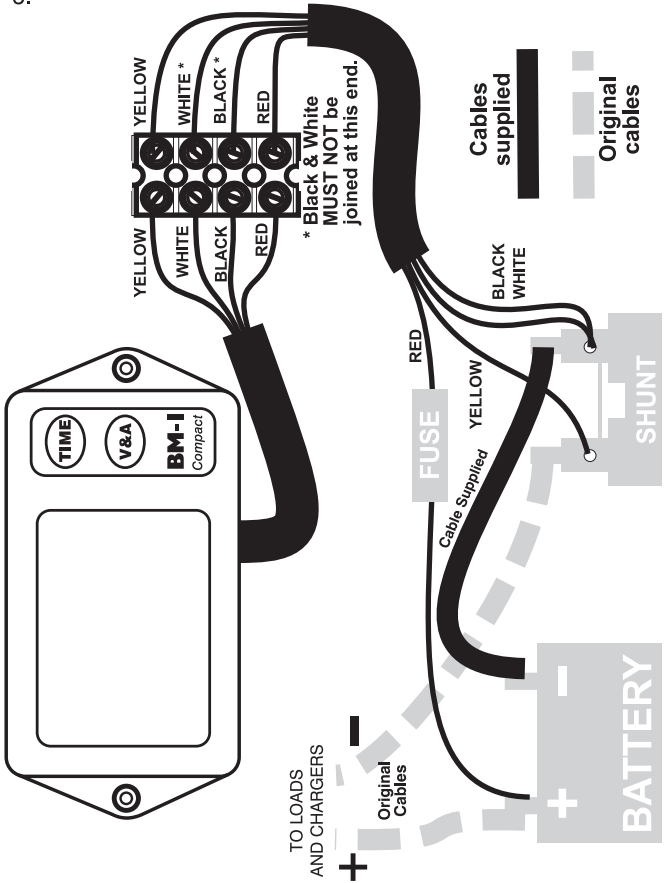

Figure 1 - Wiring Installation
3. Screw the unit to the panel and connect the wires to the terminal block provided. Connect the shunt cable to the display unit as shown on Figure 1, above, using the terminal block supplied. Be careful to connect the wires exactly as shown, noting that the black and white wires are joined at the shunt connection, and are connected separately at the instrument end of the cable.
7. Disconnect the NEGATIVE terminal from the battery and connect it to the shunt as shown in Figure 1.
8. Connect the Black and White wires and Yellow wire to the shunt as shown on Figure 1.
9. Connect the short link cable to the shunt and then to the negative terminal of the battery, as shown on Figure 1. Ensure it is positioned where it cannot come into electrical contact with other parts, and ensure it will remain dry and free from contaminants. Also note that the shunt can get warm when heavy currents flow, so ensure it is secured in a position where its heat cannot affect other parts. TAKE CARE TO AVOID OVER-TIGHTENING THE CONNECTIONS TO THE SHUNT..